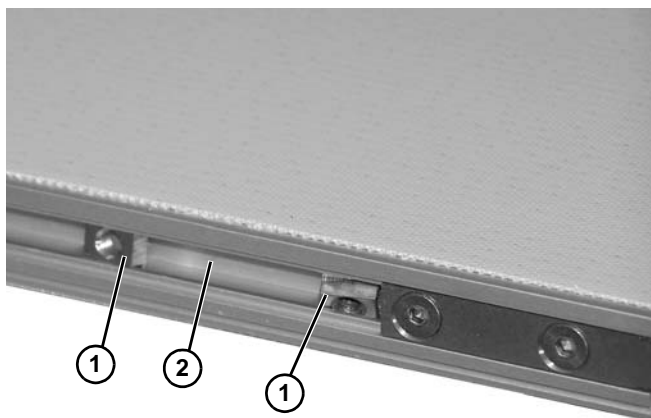

Figure 13
1. Insert two T-bars (**Figure 13, item 1**) into conveyor side slots (**Figure 13, item 2**).